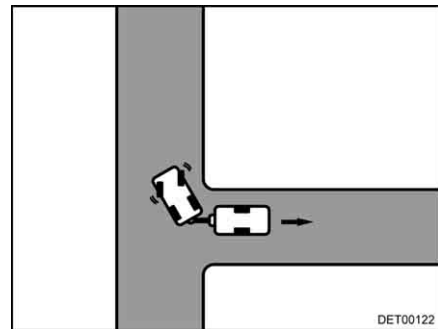

Fig. 19 Steer to the right
- Steer to the right and reverse with caution (Fig. 19).